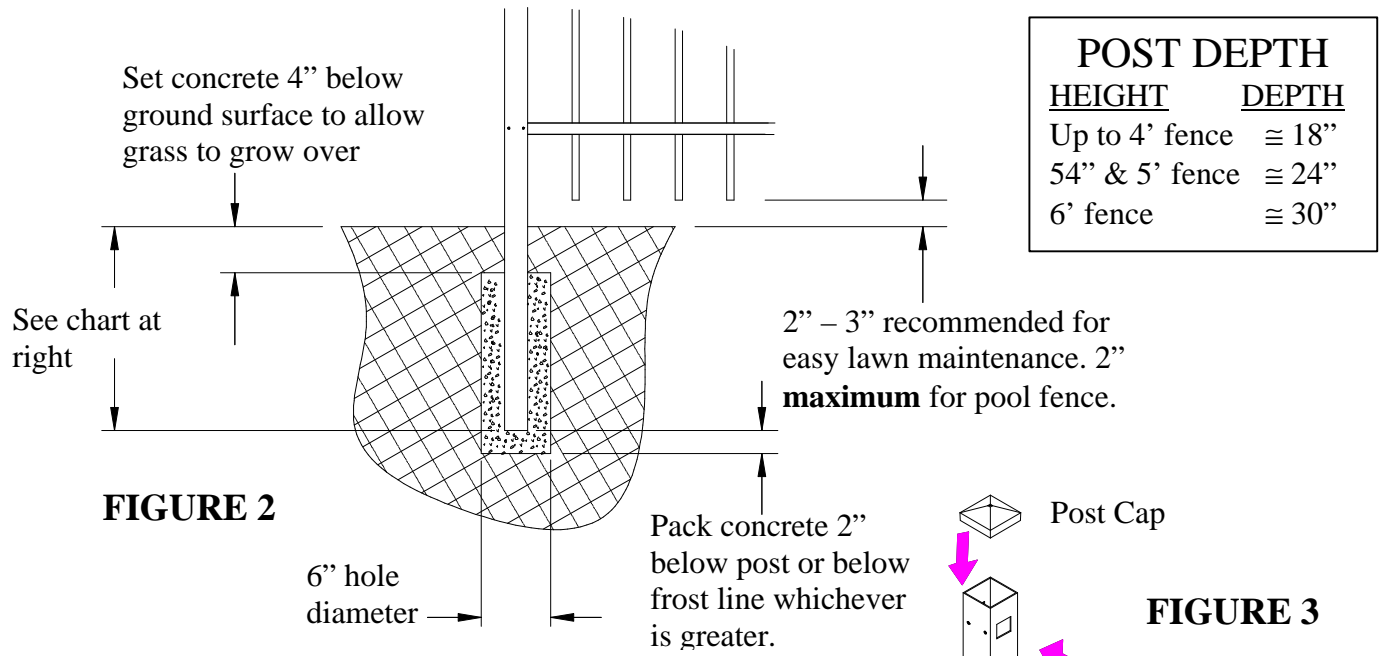

FIGURE 2
- 1.3. Proceed to dig post holes. Post center to center measurement will be 6'- 3/4" when everything is level and tight. See Figure 2 (on next page) for post hole depth.